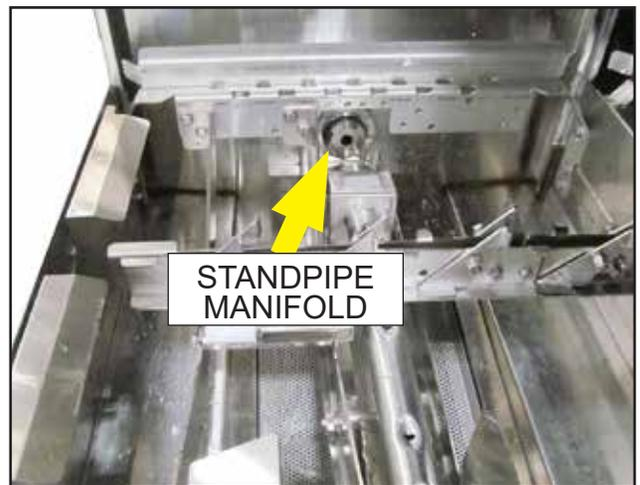

Fig. 10
- Slide lower prewash spray arm on tracks until it seats in the standpipe manifold. Push down to lock in place, Fig. 10.